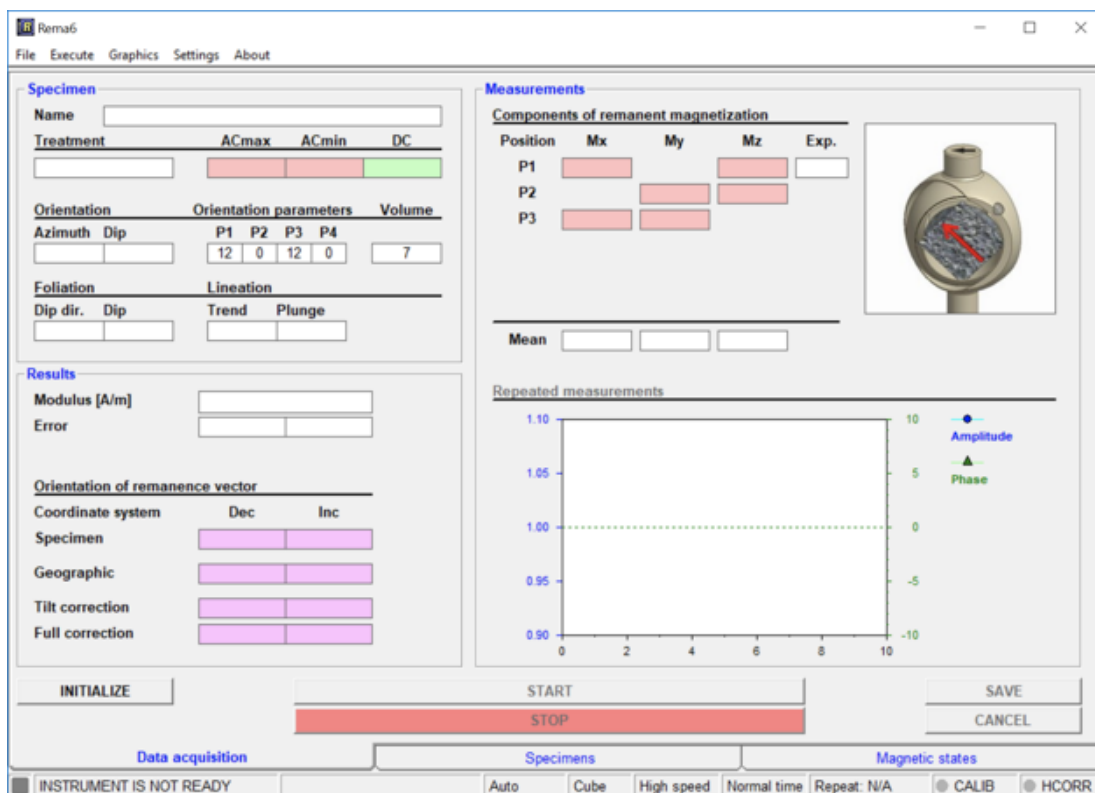

Figure 2: JR-6A Main Window before initialization.
4. Open the REMA6 software (version 6.2.06; release May 31, 2017), located on the desktop of the JR6 computer. The main REMA6 window will open (Figure 2).
3. Confirm that the orientation parameters are set to 12/0/12/0 on the main window (Figure 2). If they are not, select **Settings > Orientation parameters** to set them.
5. Click the **Initialize** button in the bottom left hand corner of the window (Figure 2). A dialogue box will appear and go through a series of checks (Figure 4). Once it is complete click **OK**.